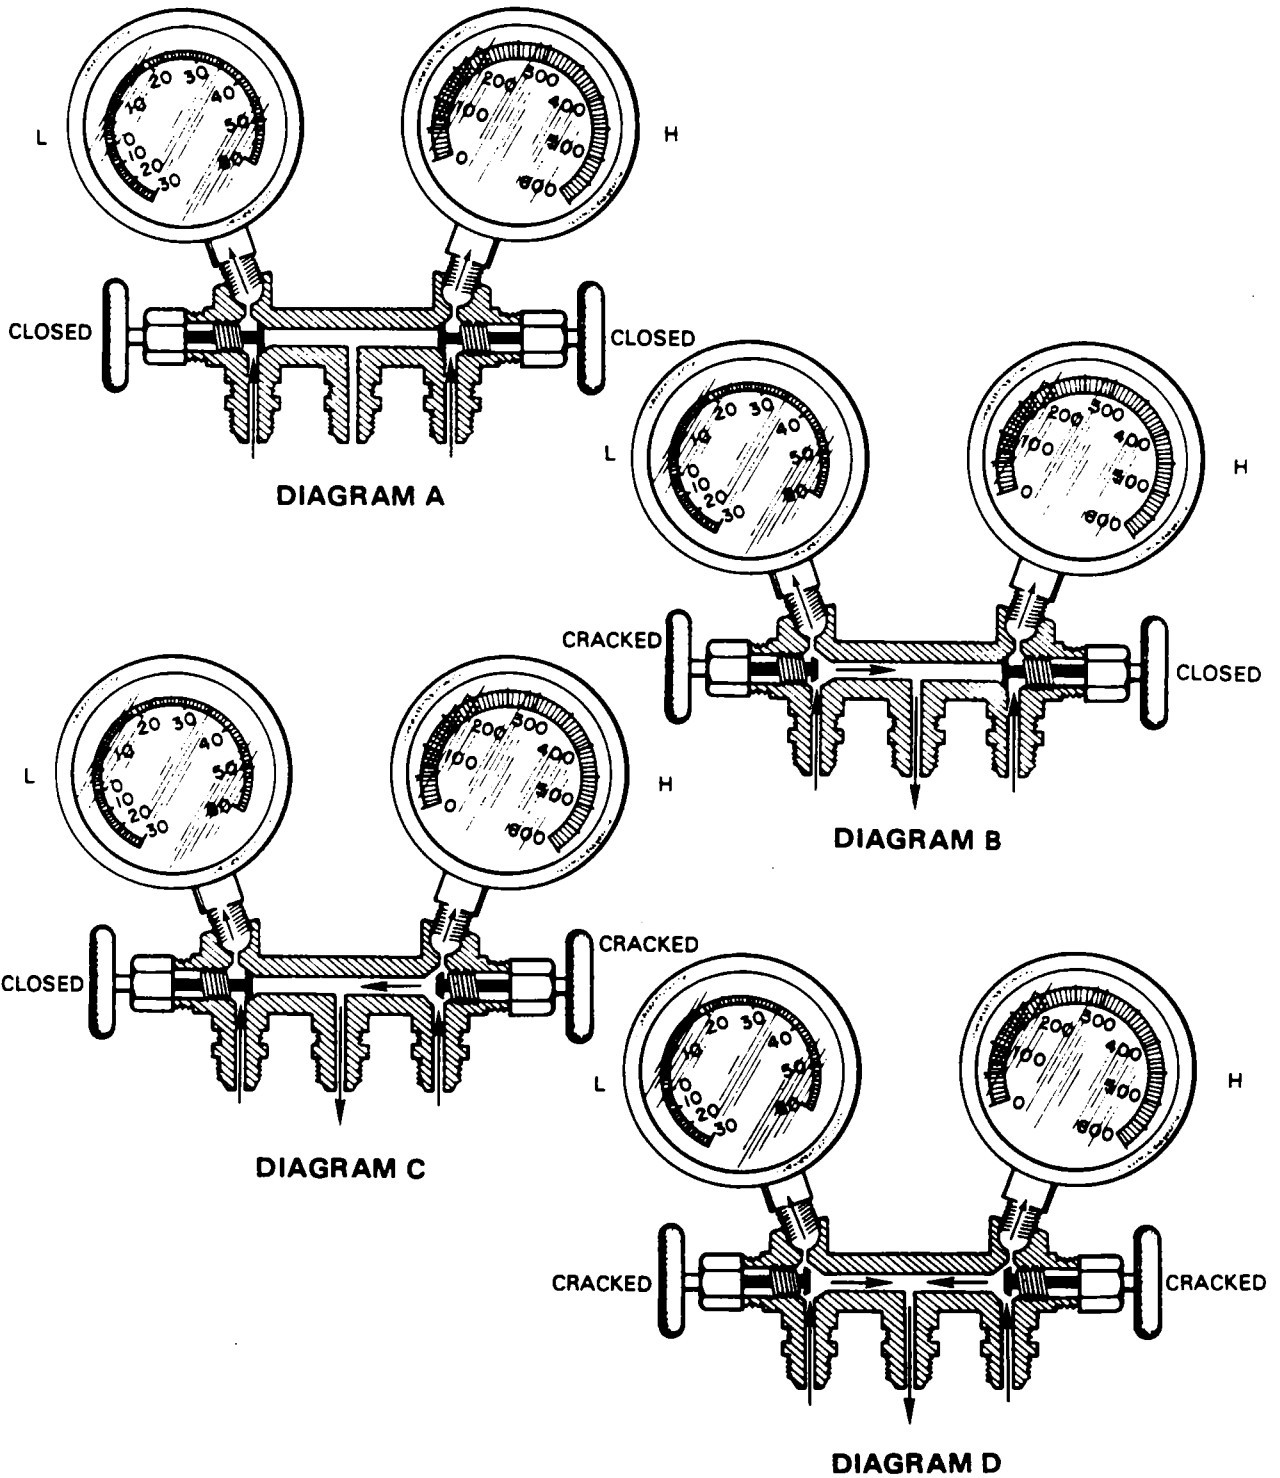

Figure 21-16. Manifold Set Operation
Cracking the hand valve, in the counterclockwise direction, opens the system to the middle service port of the manifold set. This is desirable only when it is necessary to let refrigerant out or into the system. (Refer to Figures 21-16, 21-18 and 21-19.)
1. Connect the manifold gauge set into the system and determine if there is any refrigerant in the system. Do not overtighten the knurled fitting on the service hose. Tighten only finger tight. A minimum of 50 psi refrigerant pressure in the system is needed for leak detection. (Refer to Figure 21-16.)
3. The high and low manifold hand valves should be in the closed position. (Refer to Figure 21-16.)